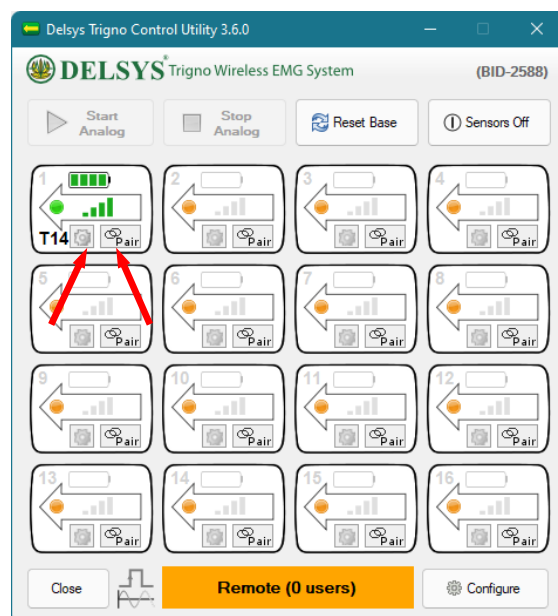

Figure 14: Configuring Trigno Sensors with the Delsys Trigno Control Utility.
2. Click the gear button for each sensor (Figure 14) to change the configuration type to an analog output compatible setting. The compatible settings are EMG + ACC and EMG + GYRO as they sample EMG data at 1926Hz.